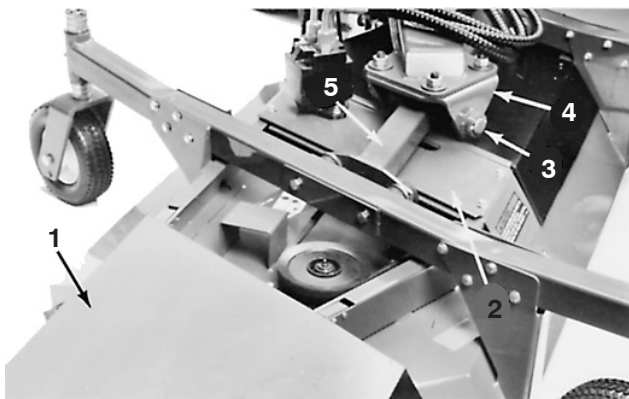

Figure 72
3. Remove flange head screws securing gearbox plate to deck. To separate plate and drive motor assembly from deck, rotate plate end toward traction unit (Fig. 72). Tip plate, motor and pulley assembly on its side and remove from deck. Be careful not to bend, twist, kink or damage flexible hydraulic lines.
4. Remove locknut securing deck pivot shaft into deck clevis and lift bar (Fig. 72).